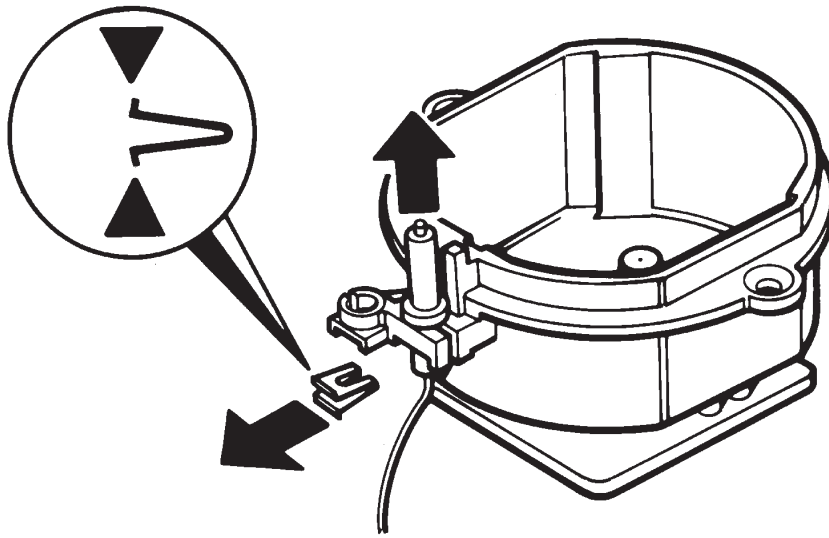

Fig. 17
4. Remove spring clip retaining electrode to burner body (See Fig. 17) and remove electrode and cable.